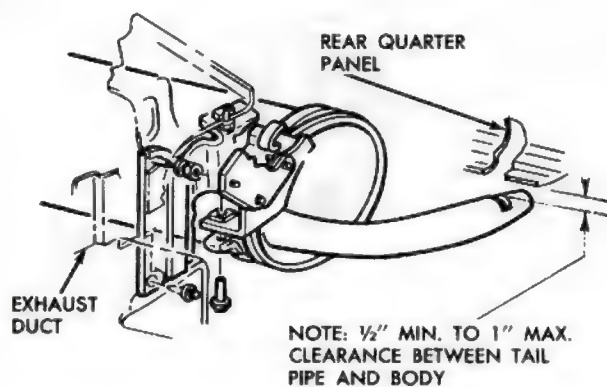

Fig. 8—Muffler and Bracket Attachment
2. Clearances are critical to prevent heat transfer, refer to Figure 8.